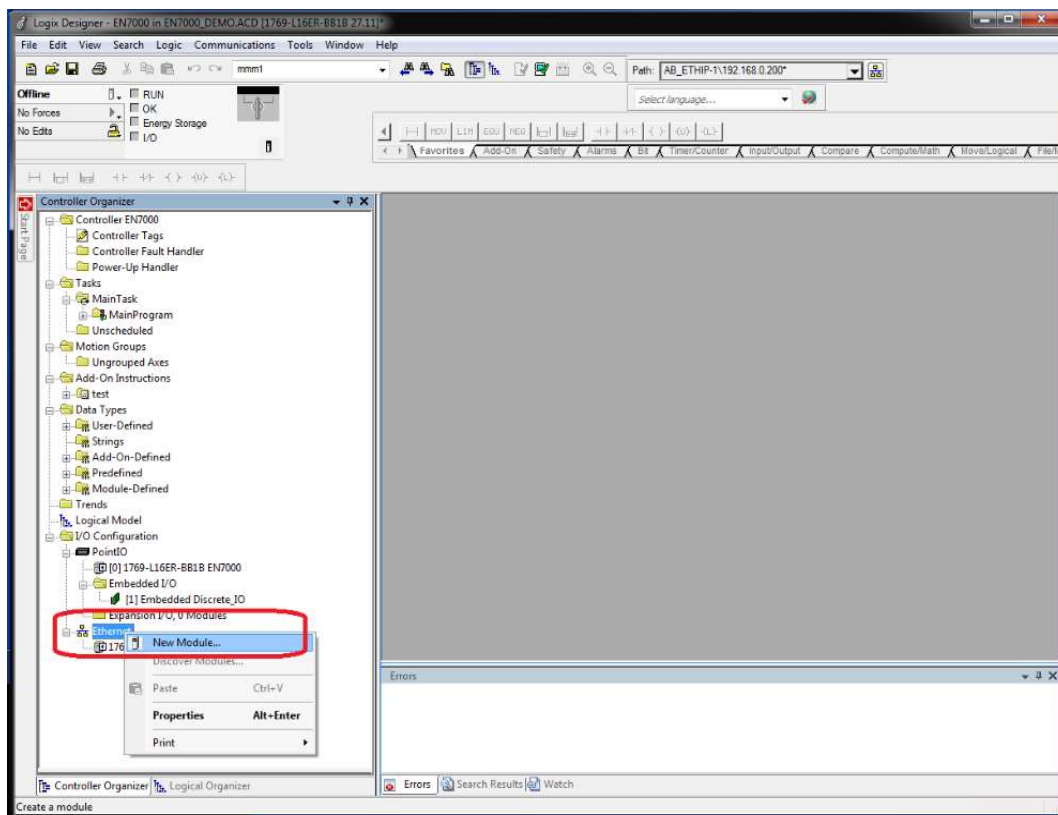

Figure 5 Create new module
- Right-click on the EtherNet/IP gateway in the I/O configuration and select **New Module**, as shown in Figure 5.